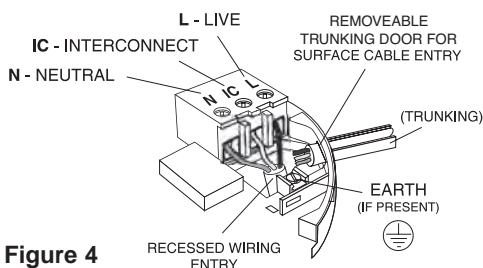

Figure 4
To interconnect the Alarms connect all the IC terminals together as shown in **Figure 4** (see “**Interconnecting Alarms**” section on page 14).
4. If the mains wires are recessed, bring the wires through the rear hole in the mounting plate as shown in **Figure 4**.
(a) position the mounting plate so the cable trunking is as shown in **Figure 4**.